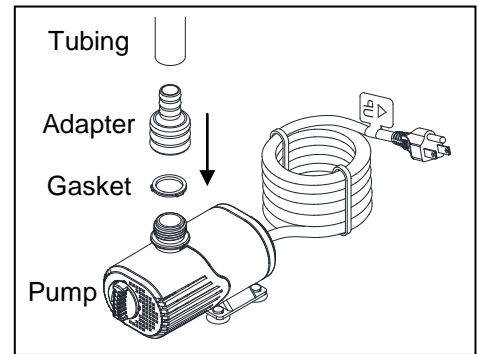

Fig. 1
1. Connect tubing to the outlet of the pump with the appropriate adapter and gasket. If use pump inside water, place the pump into the water and proceed to step 4, if using as an inline unit (out of water), proceed to the step 2. Fig 1